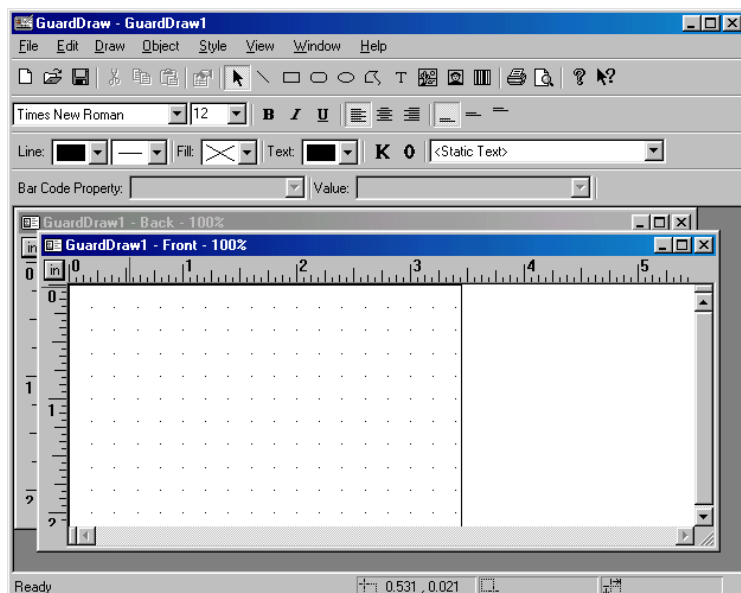

Figure 4: Blank Badge Template
1. Continuing from Step 4 above, click the File ⇒ New pull-down menu option. This opens a new, blank badge template (see Figure 4).